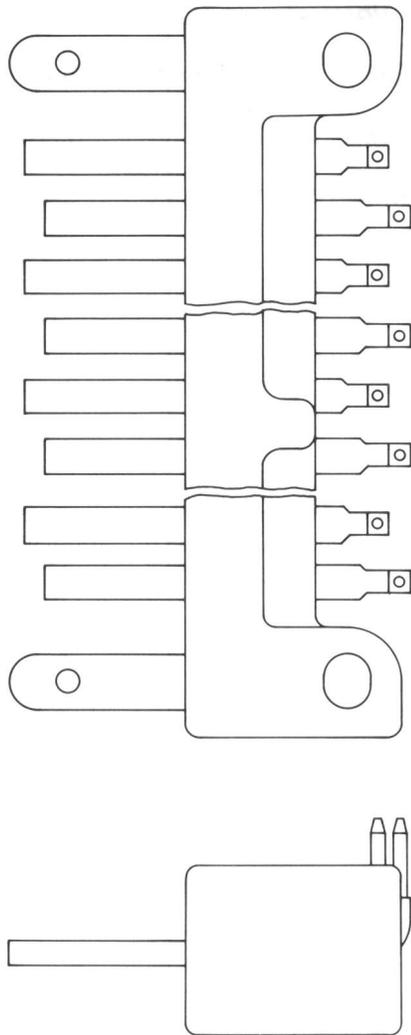

Fig. 4—503A Plug
**2.03 503A:** The 503A plug (Fig. 4) consist of a molded block of insulating material that contains terminals arranged for solder connections in the rear. The 503A plug mates with the 903A connector and is used in the J99271A Repeater.